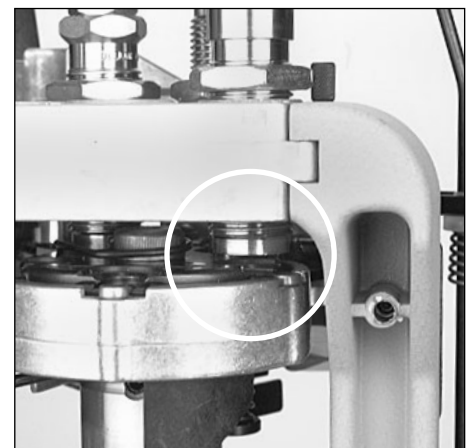

FIG 106
2. Raise the platform and screw the powder check die into Station 3 and raise the platform. There should be a 1/8 to 1/4 inch space between the shellplate and the bottom of the die FIG 106.